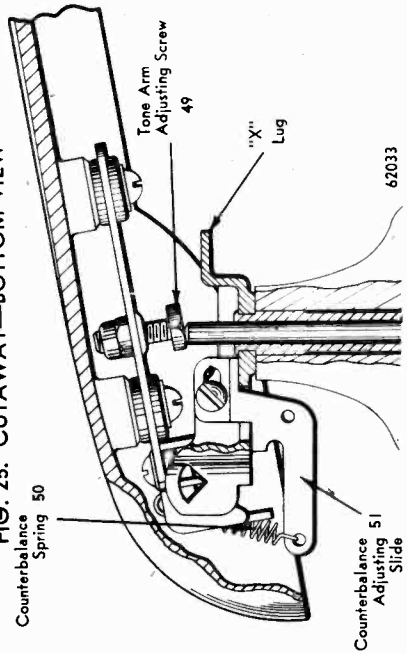

FIG. 26. CUTAWAY—SIDE VIEW
- 7.** Tone arm binds when moved toward spindle as a result of insufficient vertical clearance for tone arm shaft (52). This is caused by tone arm lever (19) being too close to underside of panel; loosen Allen socket cap screw (48) reset and retighten. (See fig. 26.)